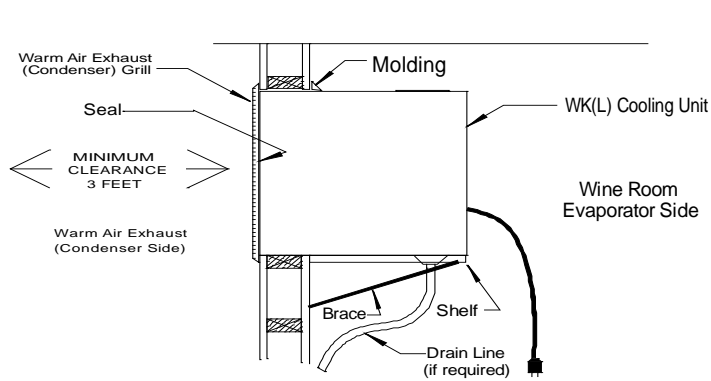
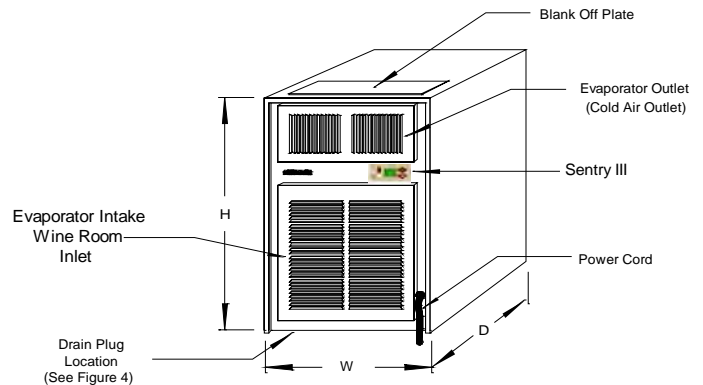

Figure 3
Figure 1
- ☞ This is a mechanical piece of equipment, it will make noise and produce heat on the warm side exterior condenser grille (Fig. 3). Remember, unit installation location is not only important inside the wine cellar, but just as important is where the warm side exhaust air is being rejected.
Before installing the unit, inspect it again for any shipping damage. Test the unit by placing it in a room where the temperature is above 65°F. Position the unit to allow cold air to flow from evaporator outlet. (See Fig. 1) Plug the unit's electrical cord into a properly grounded electrical outlet of adequate capacity (see unit specification for unit electrical requirements).
The Sentry III has no "off" position; therefore it will begin to run within 5 minutes of being plugged in. Allow it to run for a minimum of 15 minutes. There should be a flow of cool air from the evaporator side upper grille (see Fig. 1) and warm air should be flowing from the upper opening on the warm air exhaust (condenser) grille (see Fig. 3). If there is no airflow or no change in temperature on either side, contact your dealer.
side grille must remain unobstructed for 3 feet. It is preferred that the unit be mounted near the ceiling and as close to equal distance from each end of the wall as possible. If necessary, the WKL3000, WKL4000, WKL6000, and WKL8000 may be mounted near the floor if the upper grille is interchanged with the blank off plate so that the cold air will be directed up (see Fig. 1). There should be nothing above the unit to block airflow. Remove the insulation under the blank off plate with a knife.
Make sure that the warm air exhaust condenser grille can be properly attached to the unit (see Fig. 3).
If the unit is to be installed above floor level, construct a shelf as shown in Fig. 3. This shelf must be capable of supporting the weight indicated in the specifications. NOTE: Insulation placed between the unit and the shelf will reduce additional noise and help reduce condensate from forming on the underside of the unit.
Place the unit through the opening with the warm air exhaust side, flush to the outside of the wall (see Fig. 3). Attach the warm air exhaust condenser grille to the unit and to the wall with screws supplied with grille. Note: the unit may be installed with the cold side flush to the inside wall, however, two provisions must be made. First, insure the warm air exhaust grille will be installed. Second, insulate and vapor barrier the framed opening to prevent moisture in the wall from condensing on the cold surface of the cooling unit. Please remember that in all cases the warm air exhaust condenser grille must be directly attached to the warm side of the unit. Do not leave an air gap between the unit's surface and the warm air exhaust condenser grille. **The unit will not work properly without this grille.** The exhaust condenser grille has only a white primer coat. If the exhaust condenser grille is installed on an outside wall it should be coated with an appropriate paint.
BREEZAIRE is extremely proud of the quality and reliability of its products. Experience has shown that of the small number of problems encountered, the large majority are due to improper unit selection or enclosure construction. Should the cooling system be suspected of malfunctioning, check the temperature of the air being exhausted from the upper part of the warm air exhaust condenser grille. If it is warm, the unit is working. A further check may be made by comparing the air temperature entering the lower grille on the cold side (Evaporator side) with that leaving the upper cold side grille. (see Fig. 1) If the air leaving the unit is 6°F or more degrees colder than the temperature entering, the unit is working properly. In some cases, improper placement or installation may cause the unit's performance to be compromised. In situations where the ambient relative humidity is very low, the desired enclosure relative humidity may not be achieved without adding moisture. To add moisture to the enclosure only use slow, natural evaporation from a small porous water container. Do not use a humidifier.
Improper placement or installation may cause the unit's performance to be degraded. If the unit is exhausted into a confined area with poor ventilation or duct work, it will not be able to reject the heat and moisture it is removing from the enclosure and a malfunctioning unit will be suspected. If an obstruction to the flow of fresh air into or from the cooling unit (see Fig. 3) is stopped or restricted for any reason the unit could heat rather than cool the enclosure.